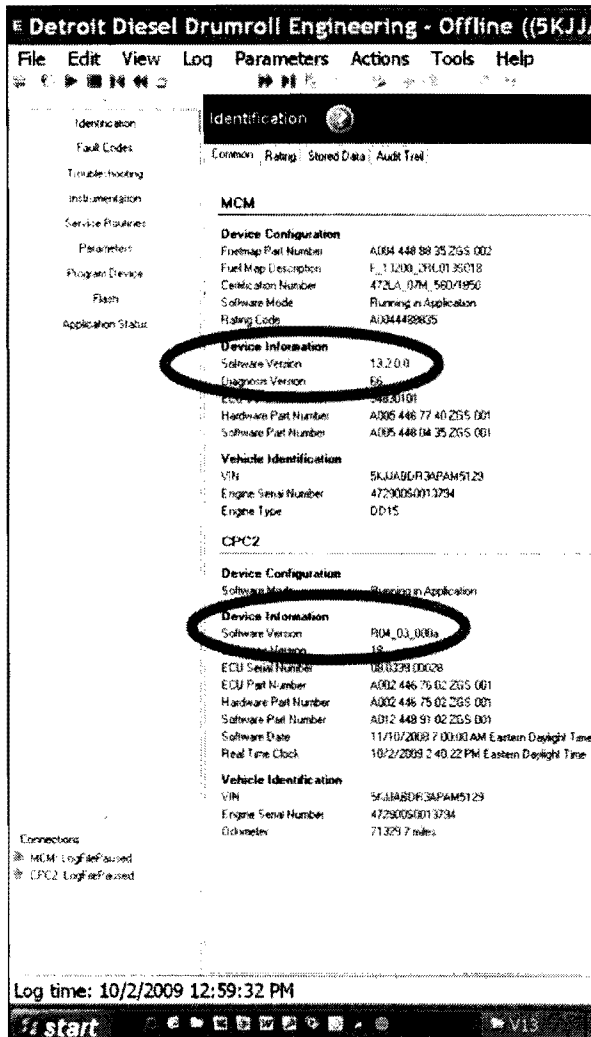

Figure 1 – Confirm Software Levels
- c) Reconnect the USB Link, reconnect DDRS 7.04 to the MCM and CPC, and confirm the proper software levels. See Figure 1.